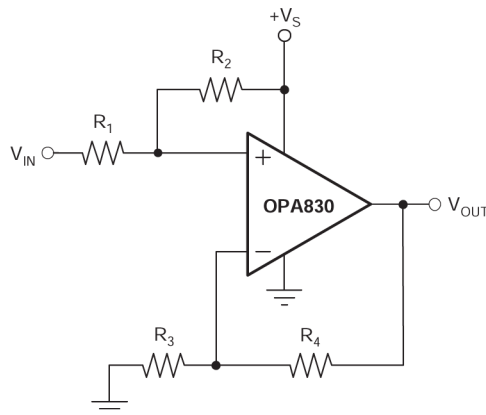
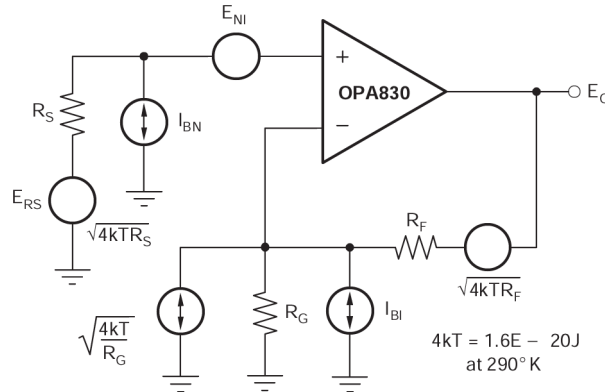

Figure 8-4. DC Level-Shifting
Figure 8-6. Noise Analysis Model
Figure 8-4 shows a dc-coupled non inverting amplifier that level-shifts the input up to accommodate the desired output voltage range. Given the desired signal gain (G), and the amount V_{OUT} needs to be shifted up (ΔV_{OUT}) when V_{IN} is at the center of the range, the following equations give the resistor values that produce the desired performance. Assume that R_4 is between 200Ω and $1.5k\Omega$.
High slew rate, unity-gain stable, voltage-feedback op amps usually achieve a slew rate at the expense of a higher input noise voltage. The 9.2nV/√Hz input voltage noise for the OPA830, however, is much lower than comparable amplifiers. The input-referred voltage noise and the two input-referred current noise terms (2.8pA/√Hz) combine to give low output noise under a wide variety of operating conditions. Figure 8-6 shows the op amp noise analysis model with all the noise terms included. In this model, all noise terms are taken to be noise voltage or current density terms in either nV/√Hz or pA/√Hz.
The total output spot noise voltage can be computed as the square root of the sum of all squared output noise voltage contributors. Figure 8-4 shows the general form for the output noise voltage using the terms shown in Figure 8-6: